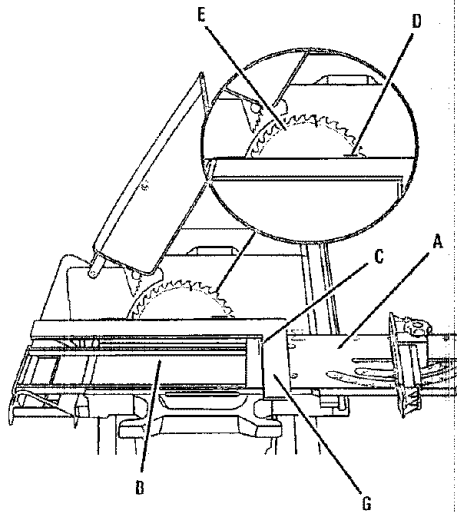

Fig. 24
See Figures 24 - 25.
- ❑ Slide miter table (A) to the front of miter base (B) as far as it will go. Place a reference mark (C) near the end of the miter table as shown in figure 24.
- ❑ Place a reference mark (D) on one of the blade teeth (E) and rotate the blade (E) so that the reference mark on the blade is at the front of the throat plate.
- ❑ Place a framing square (G) against the blade and align with reference mark on miter table. Measure the distance between the blade and the edge of miter table.